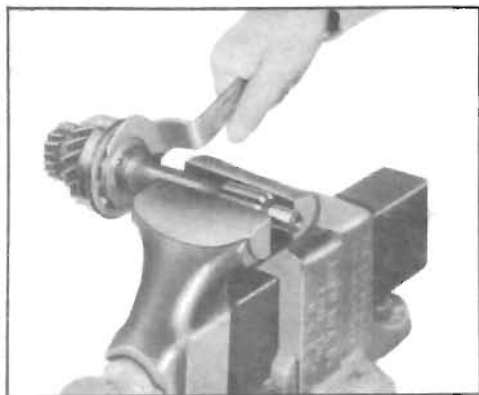

Figure 4-22—Removing Retainer Nut and Oil Slinger
1. Place the clutch gear in a vise with soft jaws, and remove the bearing retainer nut and oil slinger using Tool J-0933-01. See Figure 4-22.